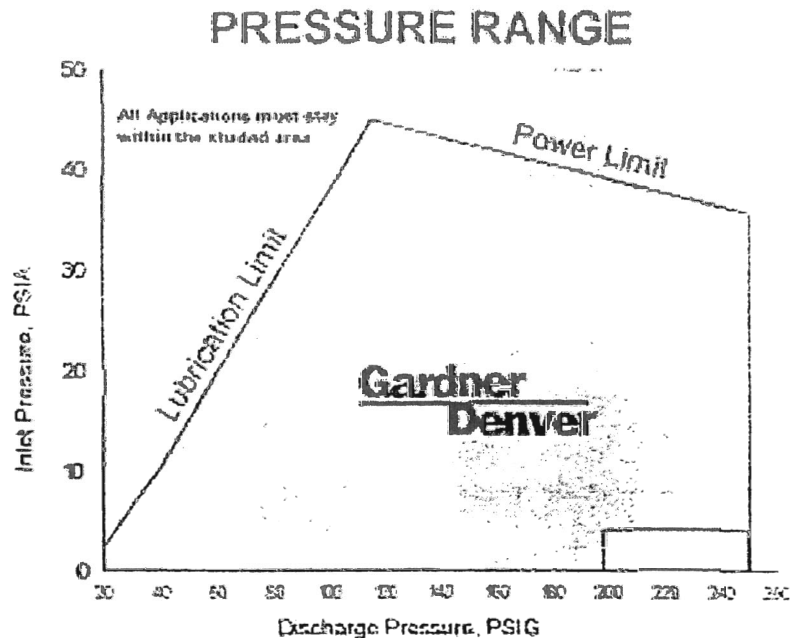

FIGURE 1-2 – PRESSURE RANGE
**OPERATING PARAMETERS** – Operating conditions must fall within the parameters shown in FIGURE 1-2.